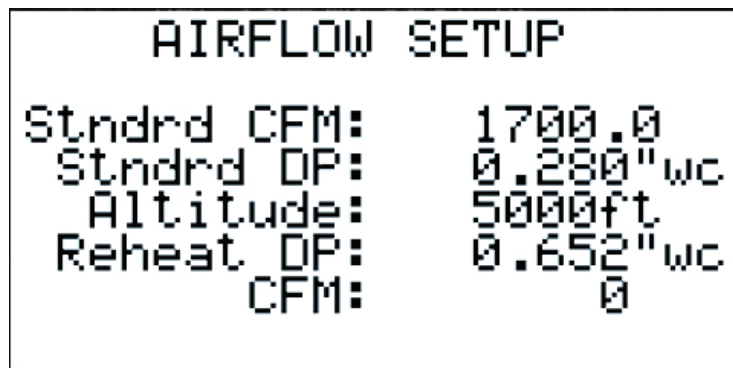
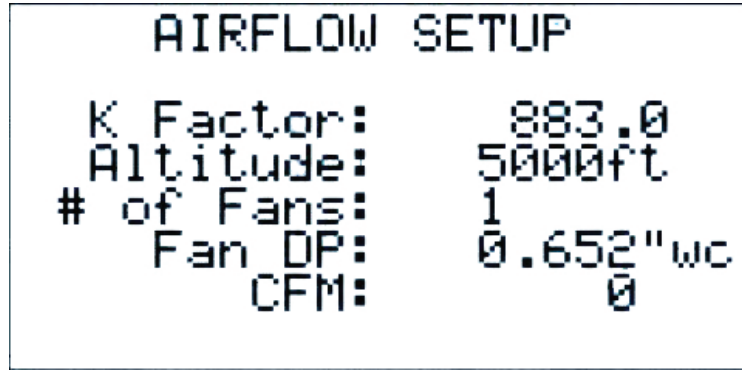

Figure 31
Figure 32
2.3.4.1.6 Airflow Setup (Figure 31)
Selecting the AIRFLOW SETUP from the Commissioning Menu will display either the screen shown in Figure 31 or Figure 32.
If the unit has a centrifugal housed blower the screen of Figure 31 will be displayed. The Standard CFM, Standard Differential Pressure, and Altitude are all adjustable towards the top half of the screen. Standard CFM is the target airflow rate of the unit. Standard DP is the differential pressure of the reheat coil when Standard CFM at sea level is achieved. These values are programmed at the factory for the specific model size.
If the unit has a plenum fan, the screen of Figure 32 will be displayed. From the Airflow Setup screen the K-Factor, Altitude, and Number of Fans are all adjustable towards the top half of the screen. Although corrections to the K-factor and number of fans are possible at the time of air balancing, it is recommended that Desert Aire Service be consulted before adjustment.